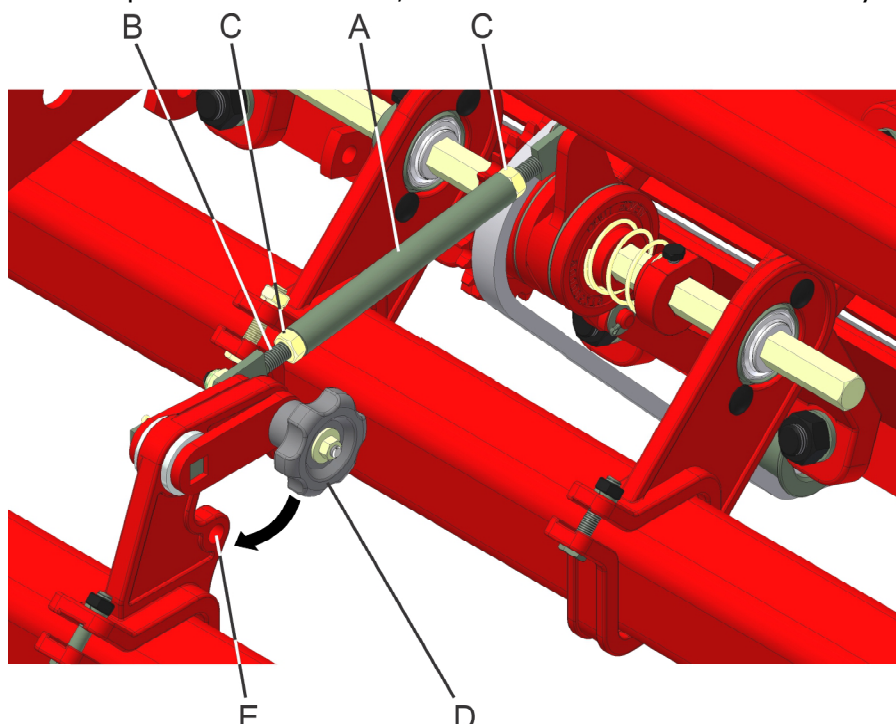

fig. 19
Regulate the adjusting rod (B) (fig. 19), in such a way as to allow a greater or smaller opening time and drive clutch, via spindle (C) and nuts (D).